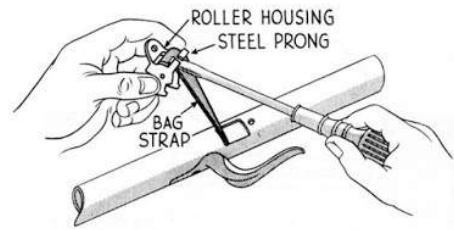

FIG. 30—Removing the bag strap from roller housing
3. Bend up the steel prongs of the roller housing to release the bag strap from roller. See Figure 30.